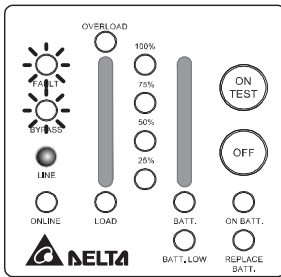
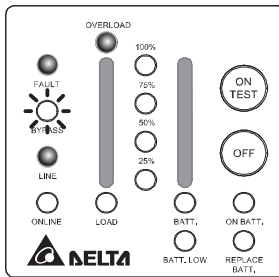

Figure 3-13 (O.T.P.)
Figure 3-14 (Fan Fail)
- ✓ When the UPS inner components overheat, the UPS will protect itself by thermal switches. This status is so-called “O.T.P”. Show as Figure 3-13. When the UPS fan is failure. It is show as Figure 3-14.